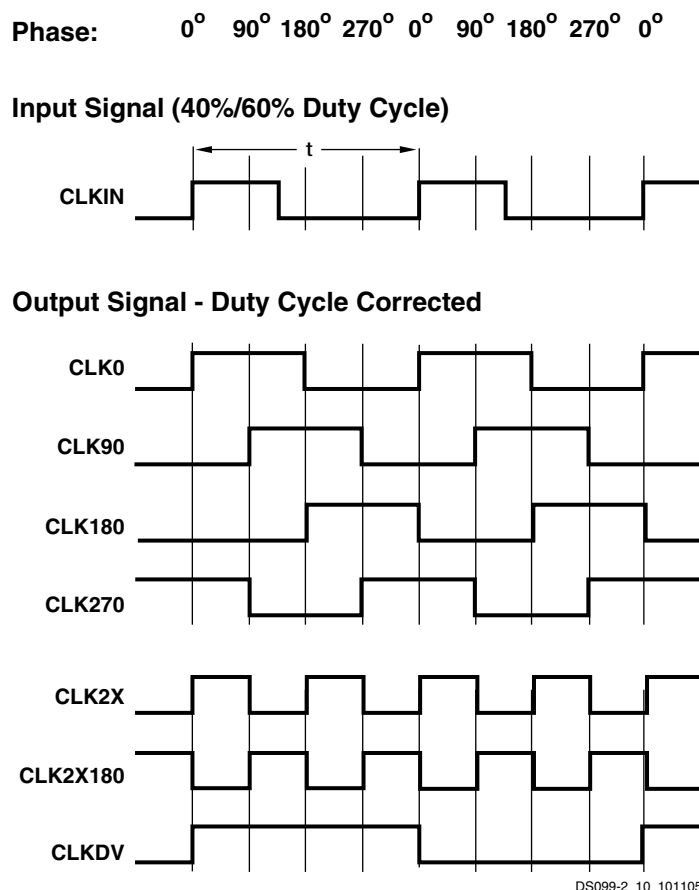

Figure 44: Characteristics of the DLL Clock Outputs
In addition to CLK0 for zero-phase alignment to the CLKIN signal, the DLL also provides the CLK90, CLK180, and CLK270 outputs for 90°, 180°, and 270° phase-shifted signals, respectively. These signals are described in Table 28, page 49 and their relative timing is shown in Figure 44. For control in finer increments than 90°, see Phase Shifter (PS).